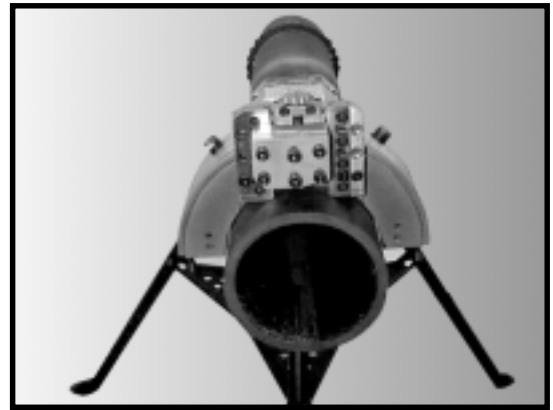

FIGURE 6
- the pinion housing) on top of the workpiece (Figure 6).